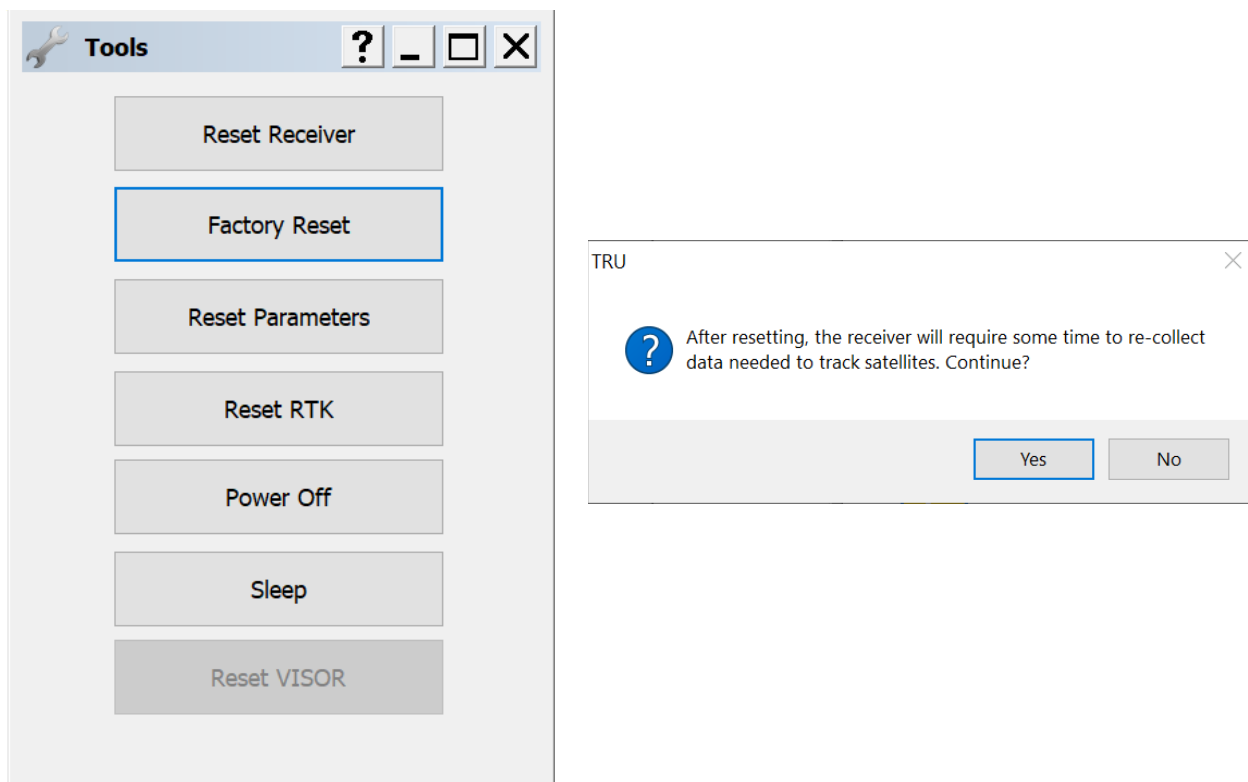

Figure 5-15: Tools Window
3. Select the **Tools** icon in the main screen. The **Tools** window appears, enabling you to reset the receiver and clear the NVRAM (Figure 5-15).